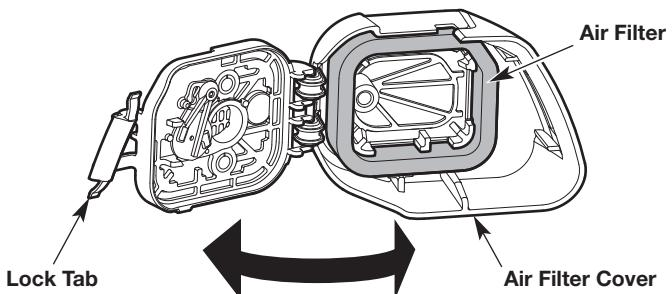

Fig. 25
1. Open the air filter cover: press in the lock tab and swing the air filter cover to the right (Fig. 25).
2. Remove the air filter from inside the air filter cover (Fig. 25).
6. Reinstall the air filter inside the air filter cover (Fig. 25).
7. Close the air filter cover: swing the air filter cover to the left and press it closed until the lock tab snaps into place (Fig. 25).